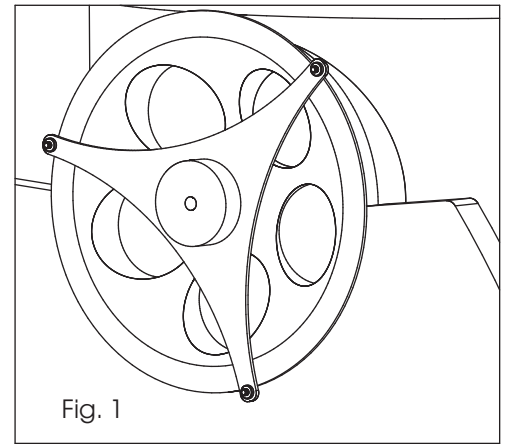
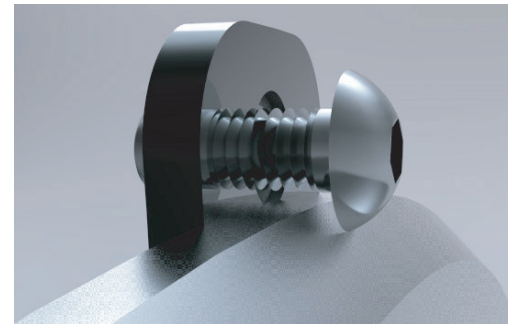

Fig. 1
Fig. 2
1) The three-armed altitude encoder mounting bracket comes with two screws preinstalled. Place the bracket onto the bearing as shown in Fig 1. If your scope has an altitude brake, ensure that the arms of the bracket are oriented in such a way that when the mount rotates, that they will not interfere with the brake. Alternatively, mount the bracket on the other bearing. When correctly oriented, the encoder coupling will be on the outside of the bearing and the heads of the screws will be towards the inside of the mount. A third M3x8 button head screw is in the bag of parts. Using the supplied 2mm hex wrench, fasten the third screw and adjust all screws evenly so that their heads grip onto the bevelled part of the bearing as shown in Fig 2. When doing so, ensure that the face of the three-armed bracket is parallel with the face of the bearing and that the encoder coupling is precisely at the center of rotation. Centering of the encoder coupling is important to help ensure that the encoder accurately reports where the mount is pointing. Once the accurate positioning of the button head screws is ensured, you may like to consider using a drop of Loctite 242 Threadlocker (blue colored liquid, not red) on the threads to hold them in place. Loctite is available from good hardware stores. See <http://www.wildcard-innovations.com.au/images/Loctite242.pdf>